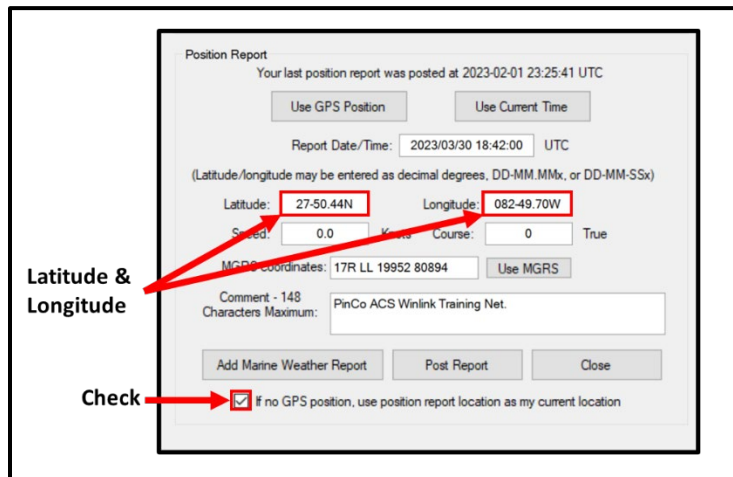

Figure 10. Winlink GPS / Position Report Window
- (1) Obtain the Command Runner's current location from one of the following devices.
- (2) Enter the **Latitude** and **Longitude** data into the fields identified in Figure 10.
- (3) Verify that the Check box at the bottom of the **GPS / Position Report** Window is checked. If not, check the box.
- (4) Click on the **Close** button.